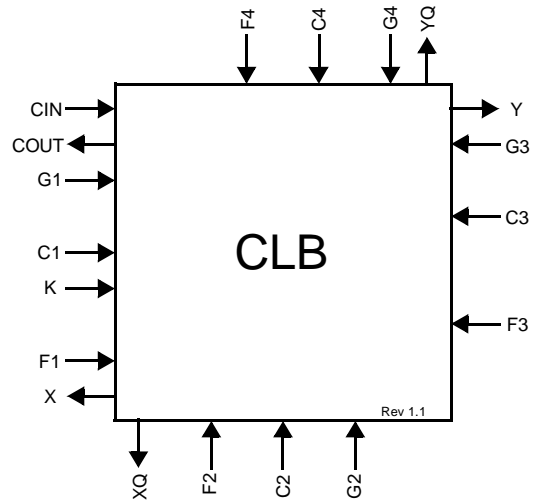

Figure 9: CLB Interconnect Signals
A block diagram of the CLB interface signals is shown in **Figure 9**. The input signals to the CLB are distributed evenly on all four sides providing maximum routing flexibility. In general, the entire architecture is symmetrical and regular. It is well suited to established placement and routing algorithms. Inputs, outputs, and function generators can freely swap positions within a CLB to avoid routing congestion during the placement and routing operation. The exceptions are the clock (K) input and CIN/COUT signals. The K input is routed to dedicated global vertical lines as well as four single-length lines and is on the left side of the CLB. The CIN/COUT signals are routed through dedicated interconnects which do not interfere with the general routing structure. The output signals from the CLB are available to drive both vertical and horizontal channels.